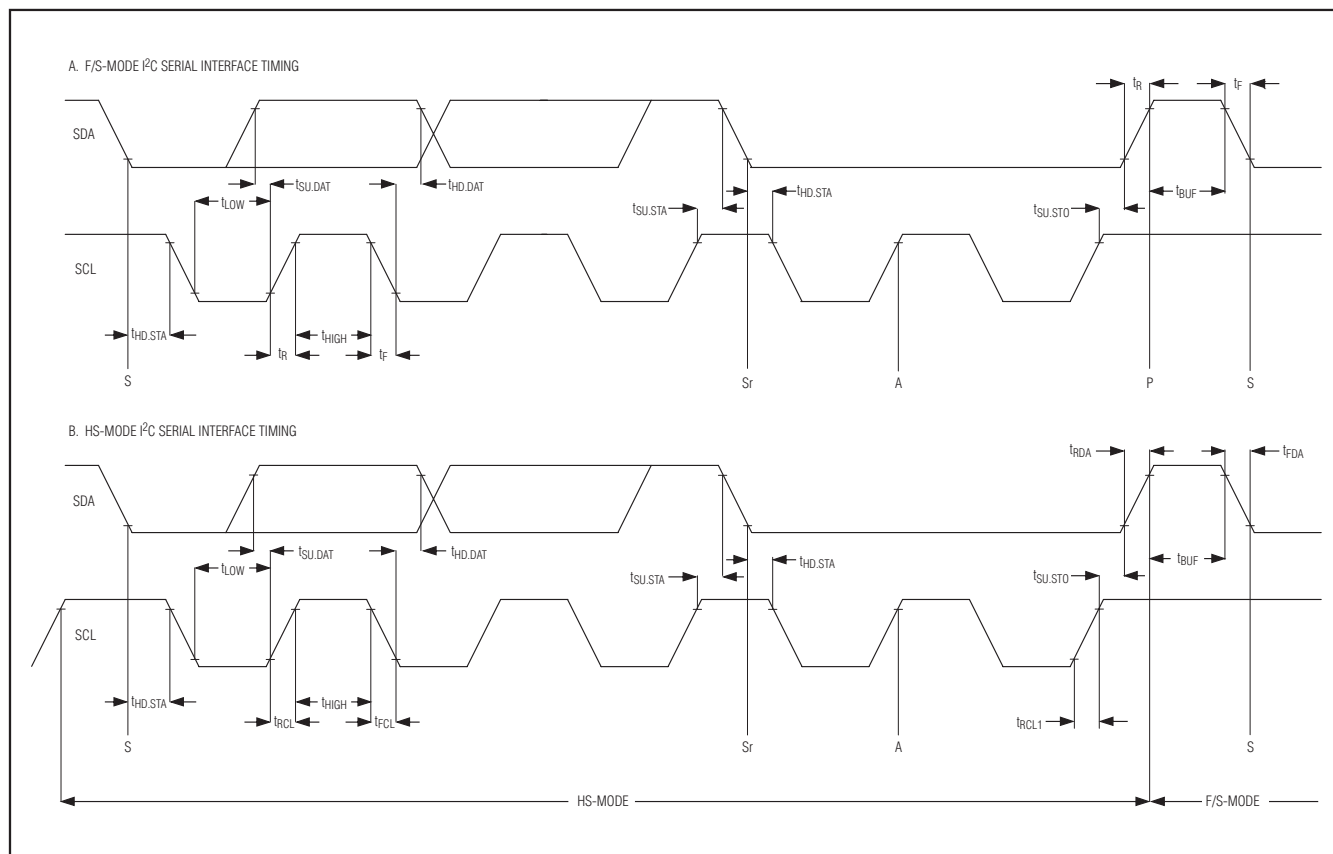

Figure 1. I²C Serial Interface Timing
**Note 12:** A master device must provide a data hold time for SDA (referred to  $V_{IL}$  of SCL) in order to bridge the undefined region of SCL's falling edge (Figure 1).
At power-up, the MAX1036–MAX1039 bus timing defaults to fast mode (F/S-mode) allowing conversion rates up to 44ksps. The MAX1036–MAX1039 must operate in high-speed mode (HS-mode) to achieve conversion rates up to 188ksps. Figure 1 shows the bus timing for the MAX1036–MAX1039's 2-wire interface.